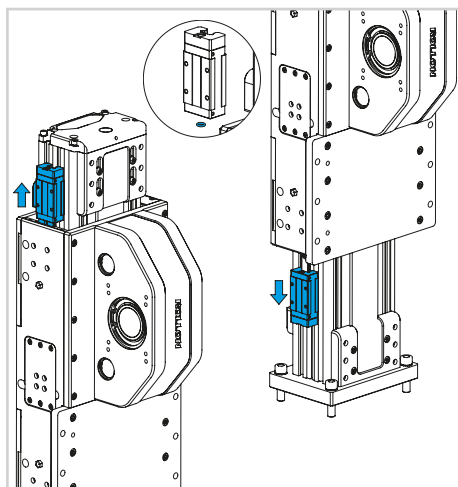

Fig. 21
- 3) Slide out the sliding block. In case the seal OR is removed during this operation, it must be re-positioned when re-assembling the sliding block (see Fig. 21).